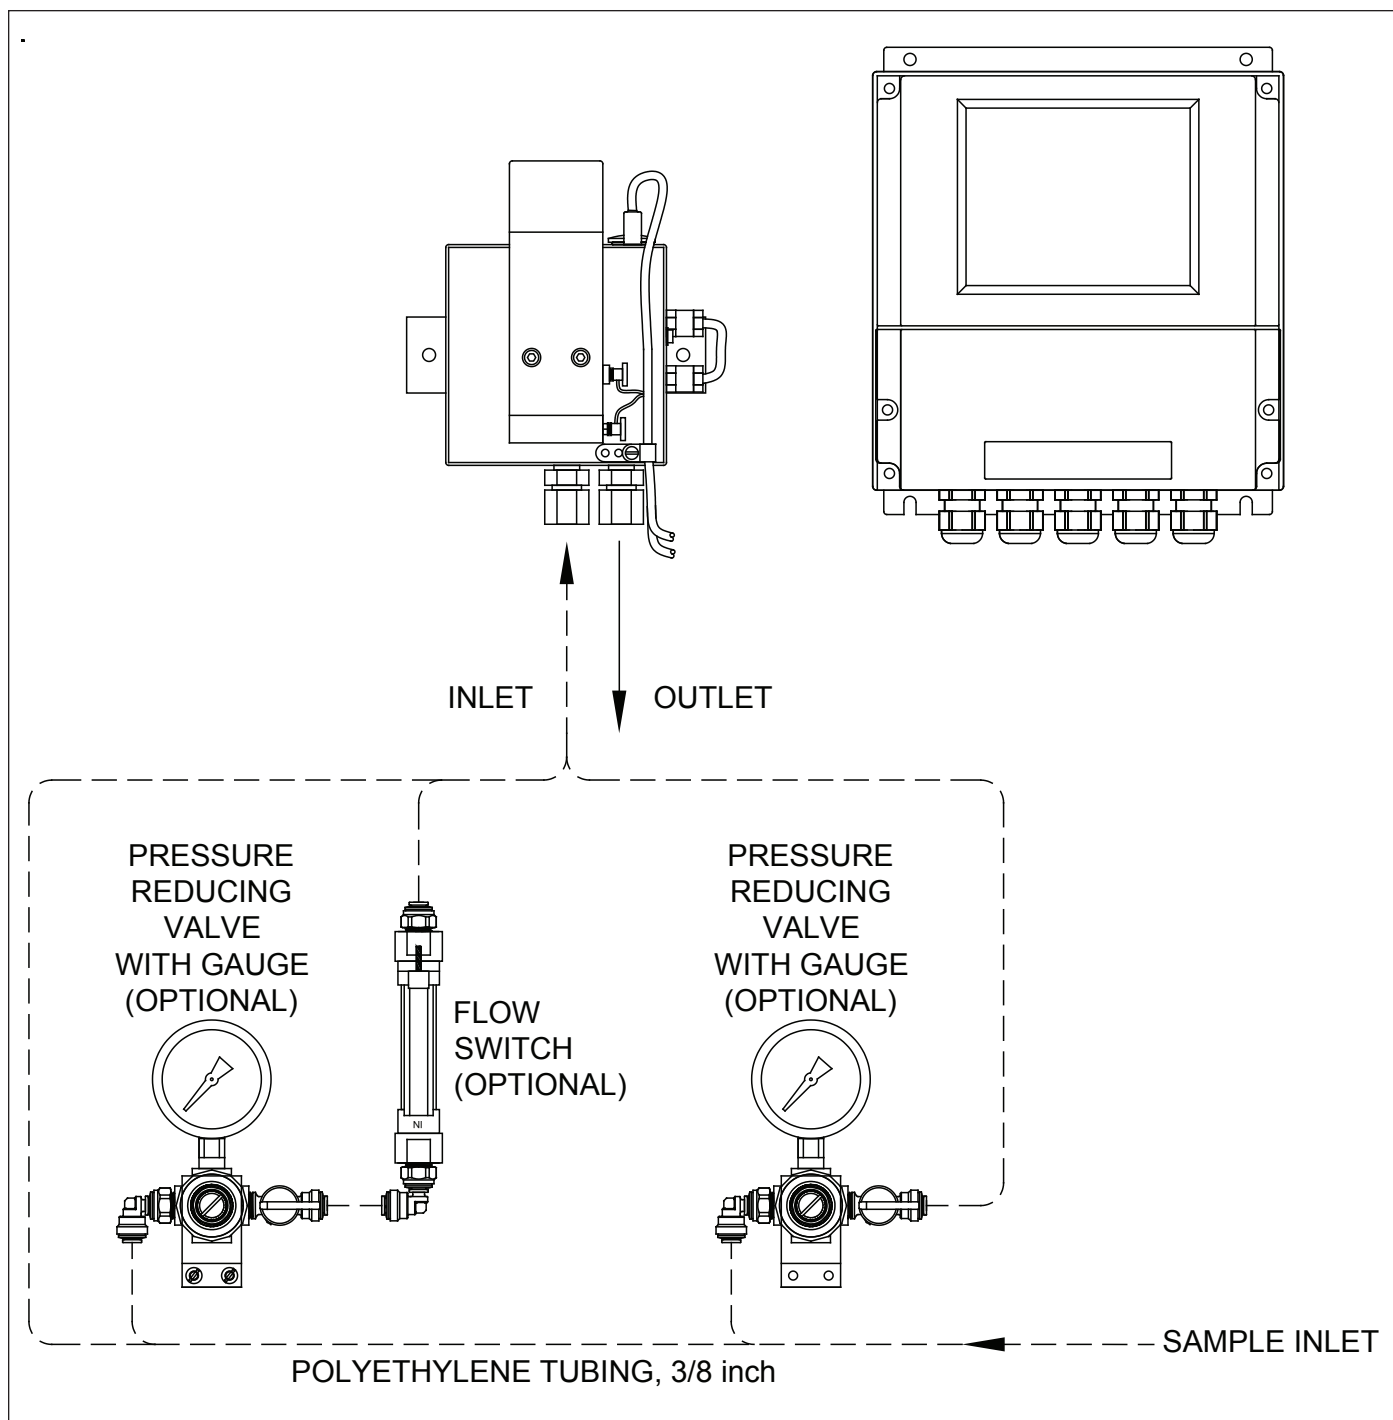

Figure 5 – Plumbing Connections
2.4 Plumbing Connections (See Figure 5)